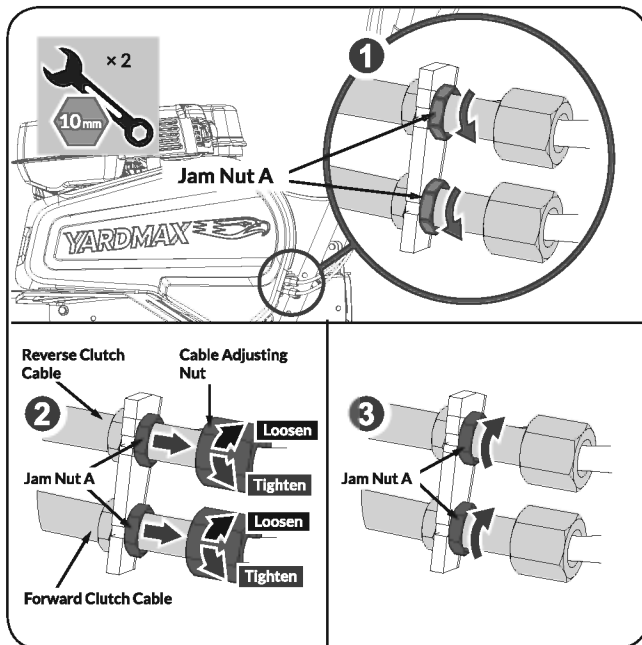

Figure 16
1. Loosen jam nut A by rotating them counterclockwise. (See **Figure 16**, Illustration 1)
2. Rotate the cable adjusting nut counterclockwise to tighten the forward clutch cable or reverse clutch cable. Rotate the cable adjusting nut clockwise to loosen the forward clutch cable or reverse clutch cable. (See **Figure 16**, Illustration 2)
3. After the cables are adjusted well, tighten the jam nut A. (See **Figure 16**, Illustration 3)